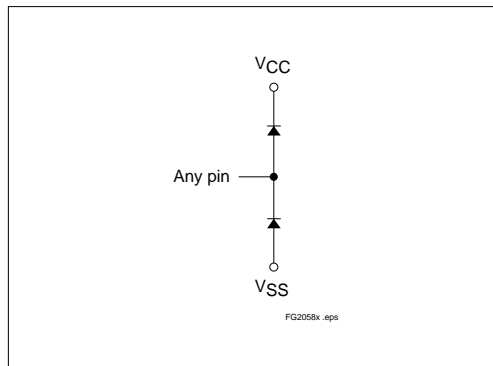

Figure 4. Internal Protection Diodes
2. Internal protection diodes are in place on every pin relative to V_{CC} and V_{SS}. See Figure 4.